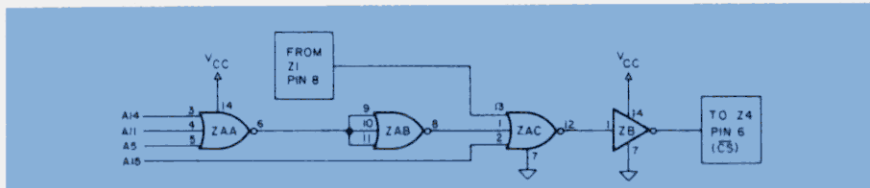
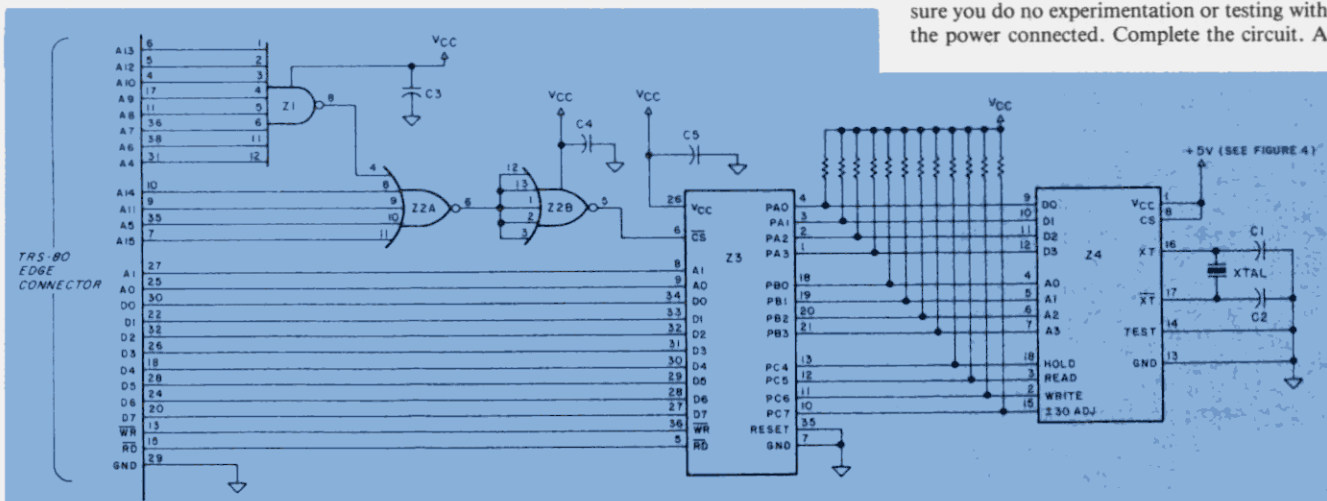
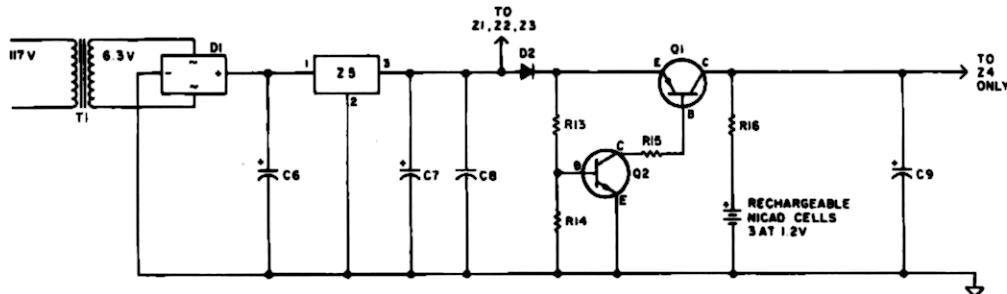

Fig. 2. Real-time Clock Using MSM5832 Clock/Calendar
Fig. 3. Real-time Clock Using MSM5832 with Alternate Circuit to Replace 74LS260
Fig. 4. Power Supply with Battery Backup
The clock chip provides just about all the features we might need: time in hours (12 or 24-hour format), minutes and seconds; month, day and year (even leap year); and day of the week. Beyond the basics, the MSM5832 can provide timing signals to the computer 1,024 time per second, once per second, once per minute, or once per hour. A battery backup of just 2.2 volts will keep it timing when the rest of the system is off. Fig. 2 presents the complete timekeeping circuit for the TRS-80. (Since 74LS260's were in short supply when this article was being prepared, Fig. 3 is an alternate for that part of the circuit.)
Besides, in the near future this column will present a way of adding 2K of your home-programmed ROM to the system from 3000H to 37CFH. So we will place the clock at 37D0H, 37D1H and 37D2H, out of the way of the operating systems mentioned above, and just below the cassette, printer and disk addresses. In Fig. 2, Z1 and Z2 do the decoding work, permitting our access to those 13 addresses only (See Table 1 for details).
- Use Fig. 3 when 74LS260s are out of stock everywhere you call.
ply) and ground in both circuits. These should be mounted as close as possible to their respective integrated circuits so they can filter out extraneous signals caused by fast-switching ICs. The pull-up resistors (R1 to R12 in Fig. 2) are essential to the operation of the MSM5832. See Fig. 4 for a diagram of the power supply with battery backup for the MSM5832 clock.